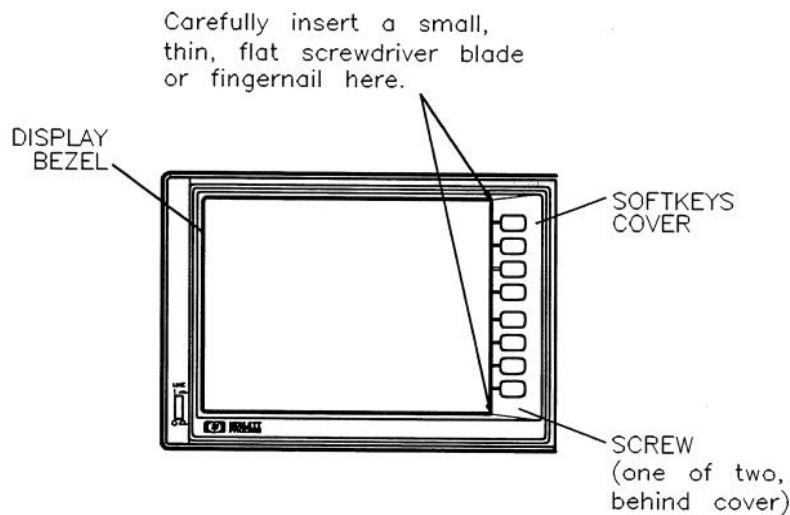

Figure 3-3. Removing the Glass Filter
1. Remove the softkeys cover (a plastic cover through which the front panel softkeys protrude): carefully insert a thin, flat screwdriver blade (or your fingernail) between the upper left-hand corner of the softkeys cover and the glass filter. See Figure 3-3. Be extremely careful not to scratch or break the glass. Pull the cover forward and off.